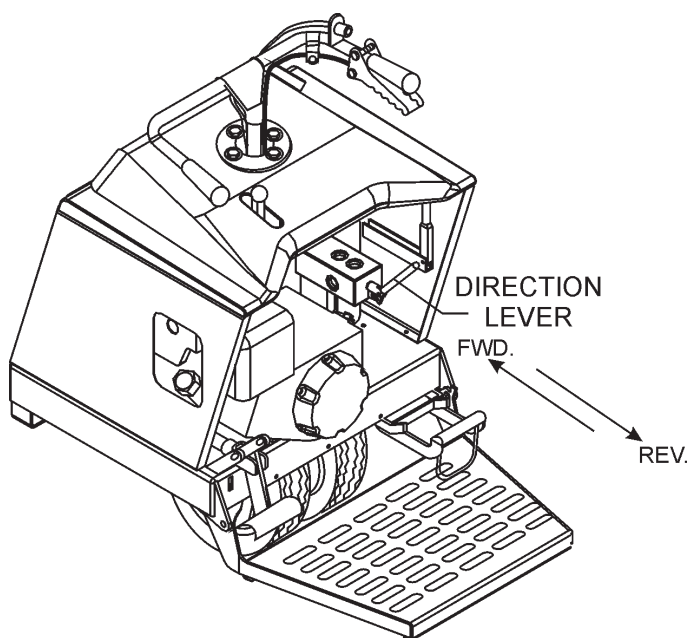

Figure 18. Direction Lever
4. Place the power buggy's **direction lever** (Figure 18) in the **FORWARD** direction.
1. With the engine running and parking brake released, place the **direction lever** (Figure 18) in the **FORWARD** direction.